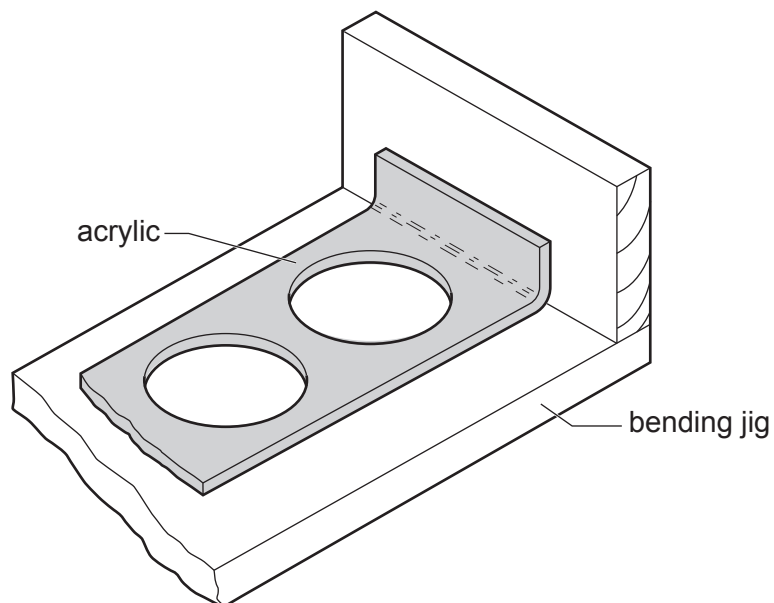

Fig. 13.7
- (e) Fig. 13.7 shows one end of the development (net) of the palette being bent to shape on a bending jig after it has been heated.
Add sketches and notes to Fig. 13.7 to show how the heated acrylic could be held in position while it cools.